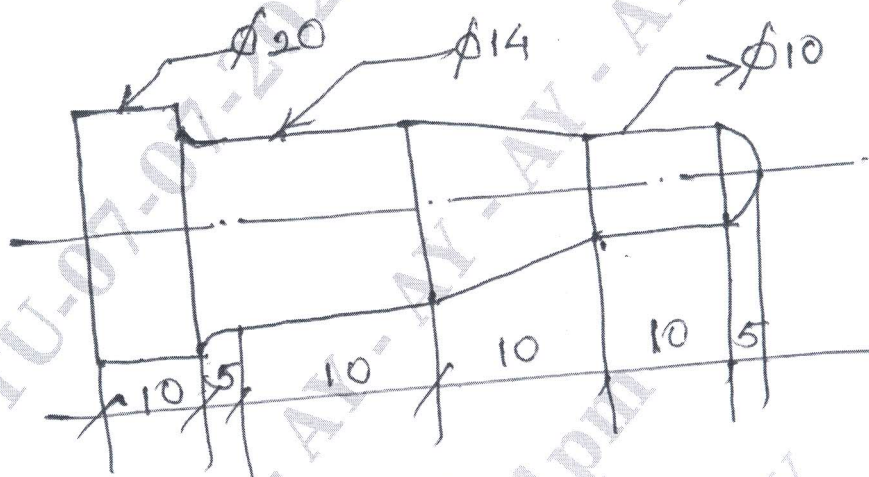

Fig.Q10(b)
- b. Write a manual part program for machining the profile shown in Fig.Q10(b). (All dimensions are in mm)